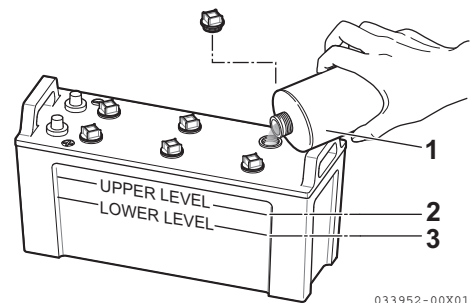

Figure 5
1. Remove the yellow oil filler port cap from filler port (1, **Figure 5 on page 24**). Remove the drain plugs (both in the right and left) in the lower portion of the oil pan and drain the engine oil.
4. If the level is lower than the minimum, fill level (3, **Figure 5**), fill with distilled water (1, **Figure 5**) (available in the grocery store) up to the upper limit (2, **Figure 5**) of the battery.